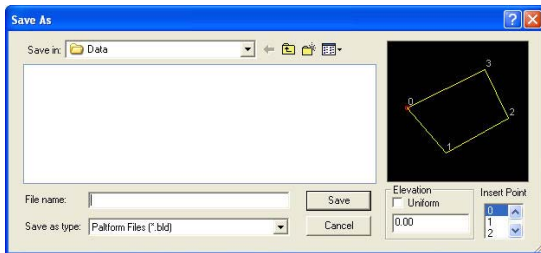

Figure 14-83. Save as a Pad File
1. Click on the **Save File** button on the *Edit Boundary* dialog box. The *Save As* dialog box appears (Figure 14-83).